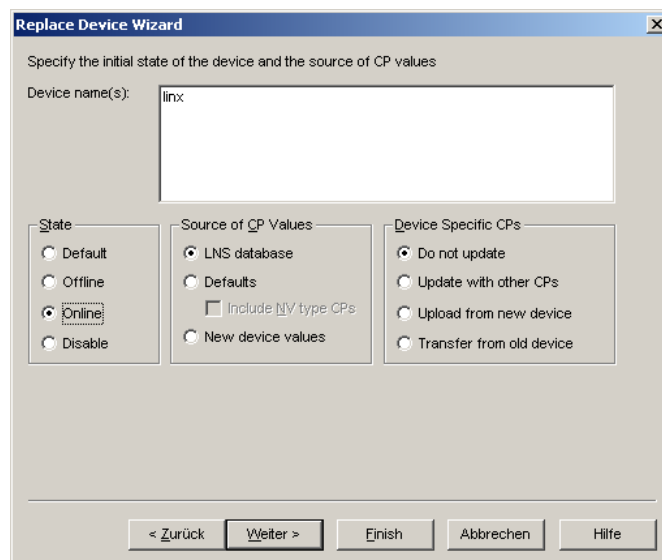

Figure 124: Select online state.
5. Then select **Online** as shown in Figure 124 and click **Next**.